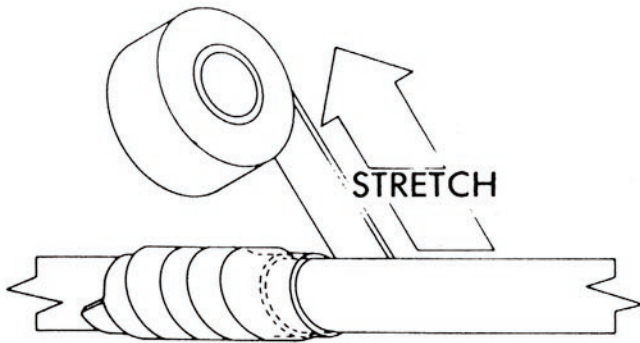
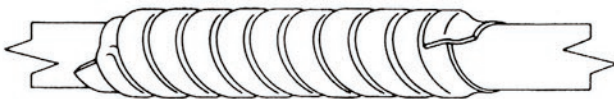

FIGURE 4
FIGURE 5
5.03 Half-lap 3/4" LOCK-TAPE™ Sealant around the cable (black side up) in area of cable coated with C-Cement. Stretch tape enough to reduce its width to 1/2" while applying (Figure 4). Be sure to remove backing from white side while applying tape. Figure 5 shows the completed application of one half-lap of LOCK-TAPE Sealant.